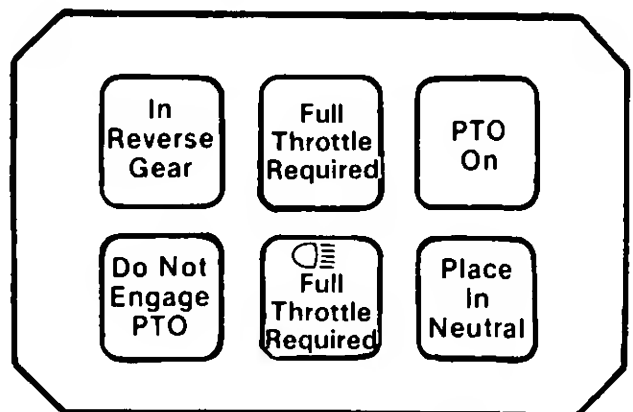

Figure 5.
B. ELECTRONIC MONITOR (See Figure 5)